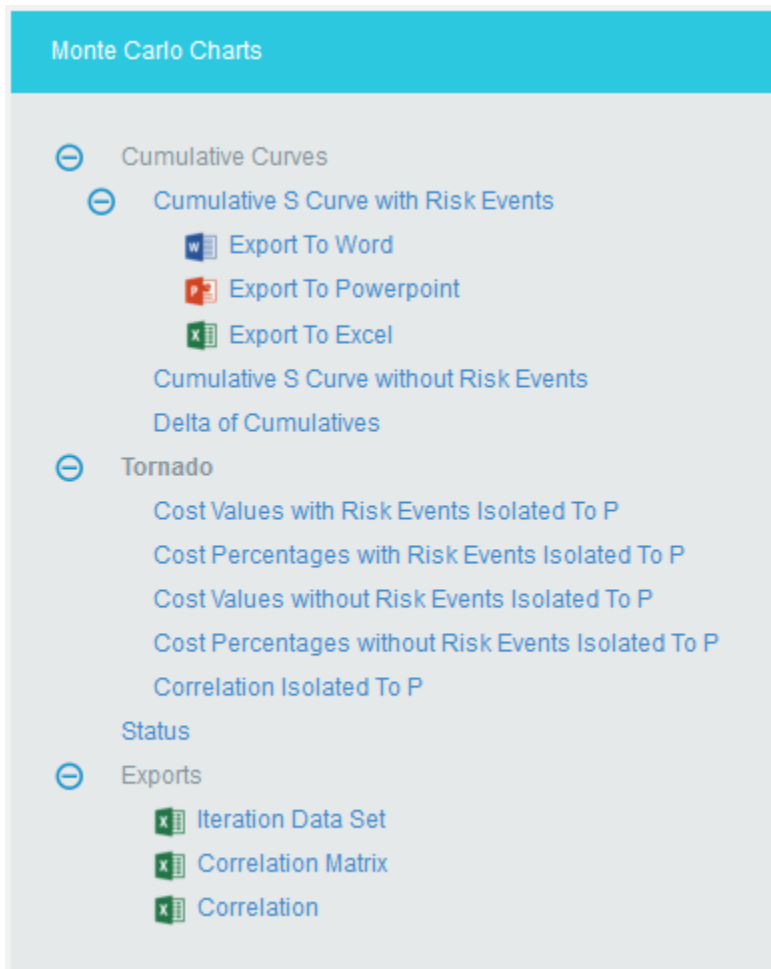

Figure 2.63
2. Click **Cumulative S Curve with Risk Events** link under **Cumulative Curves**. (Figure 2.63)
2. Click **Cumulative S Curve without Risks** link under **Cumulative Curves**. (Figure 2.63)
2. Click **Delta of Cumulatives** link under **Cumulative Curves**. (Figure 2.63)